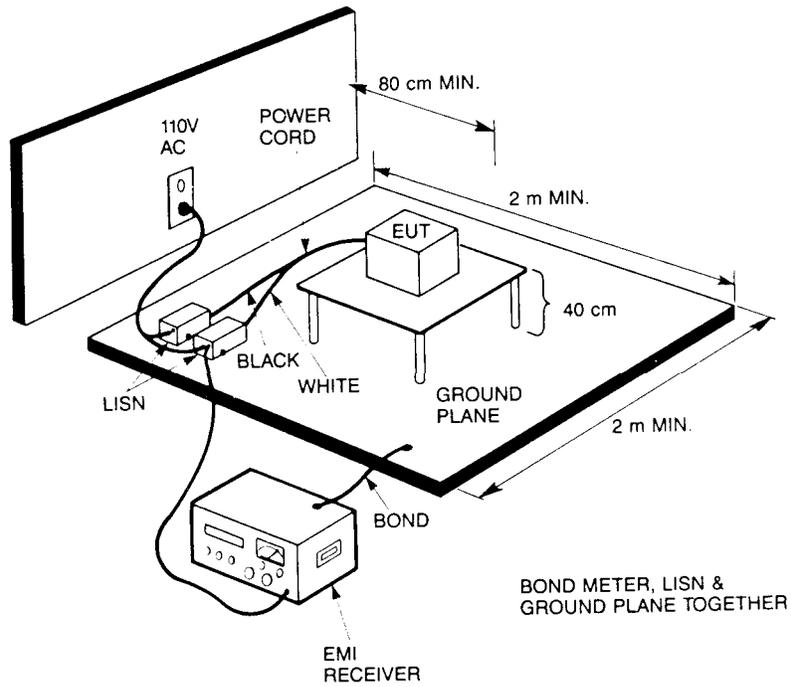

Figure 1-7. Test setup for FCC conducted emission measurements.
- Figure 1-7 shows the test fixture for conducted emissions